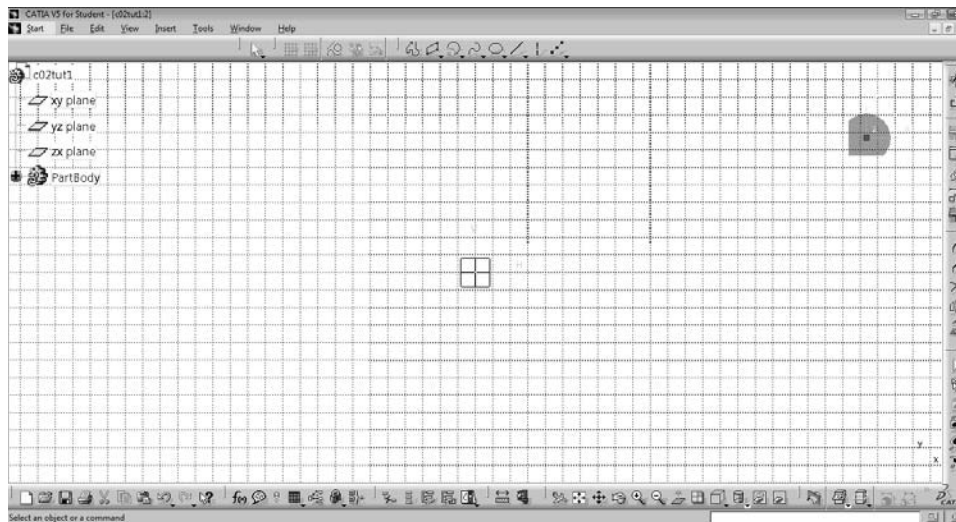

Figure 2-35 The *Sketcher* workbench screen
6. Choose the **Sketch** tool from the **Sketcher** toolbar and then select the *yz* plane from the Specification tree as the sketching plane; the **Sketcher** workbench screen is displayed, as shown in Figure 2-35.